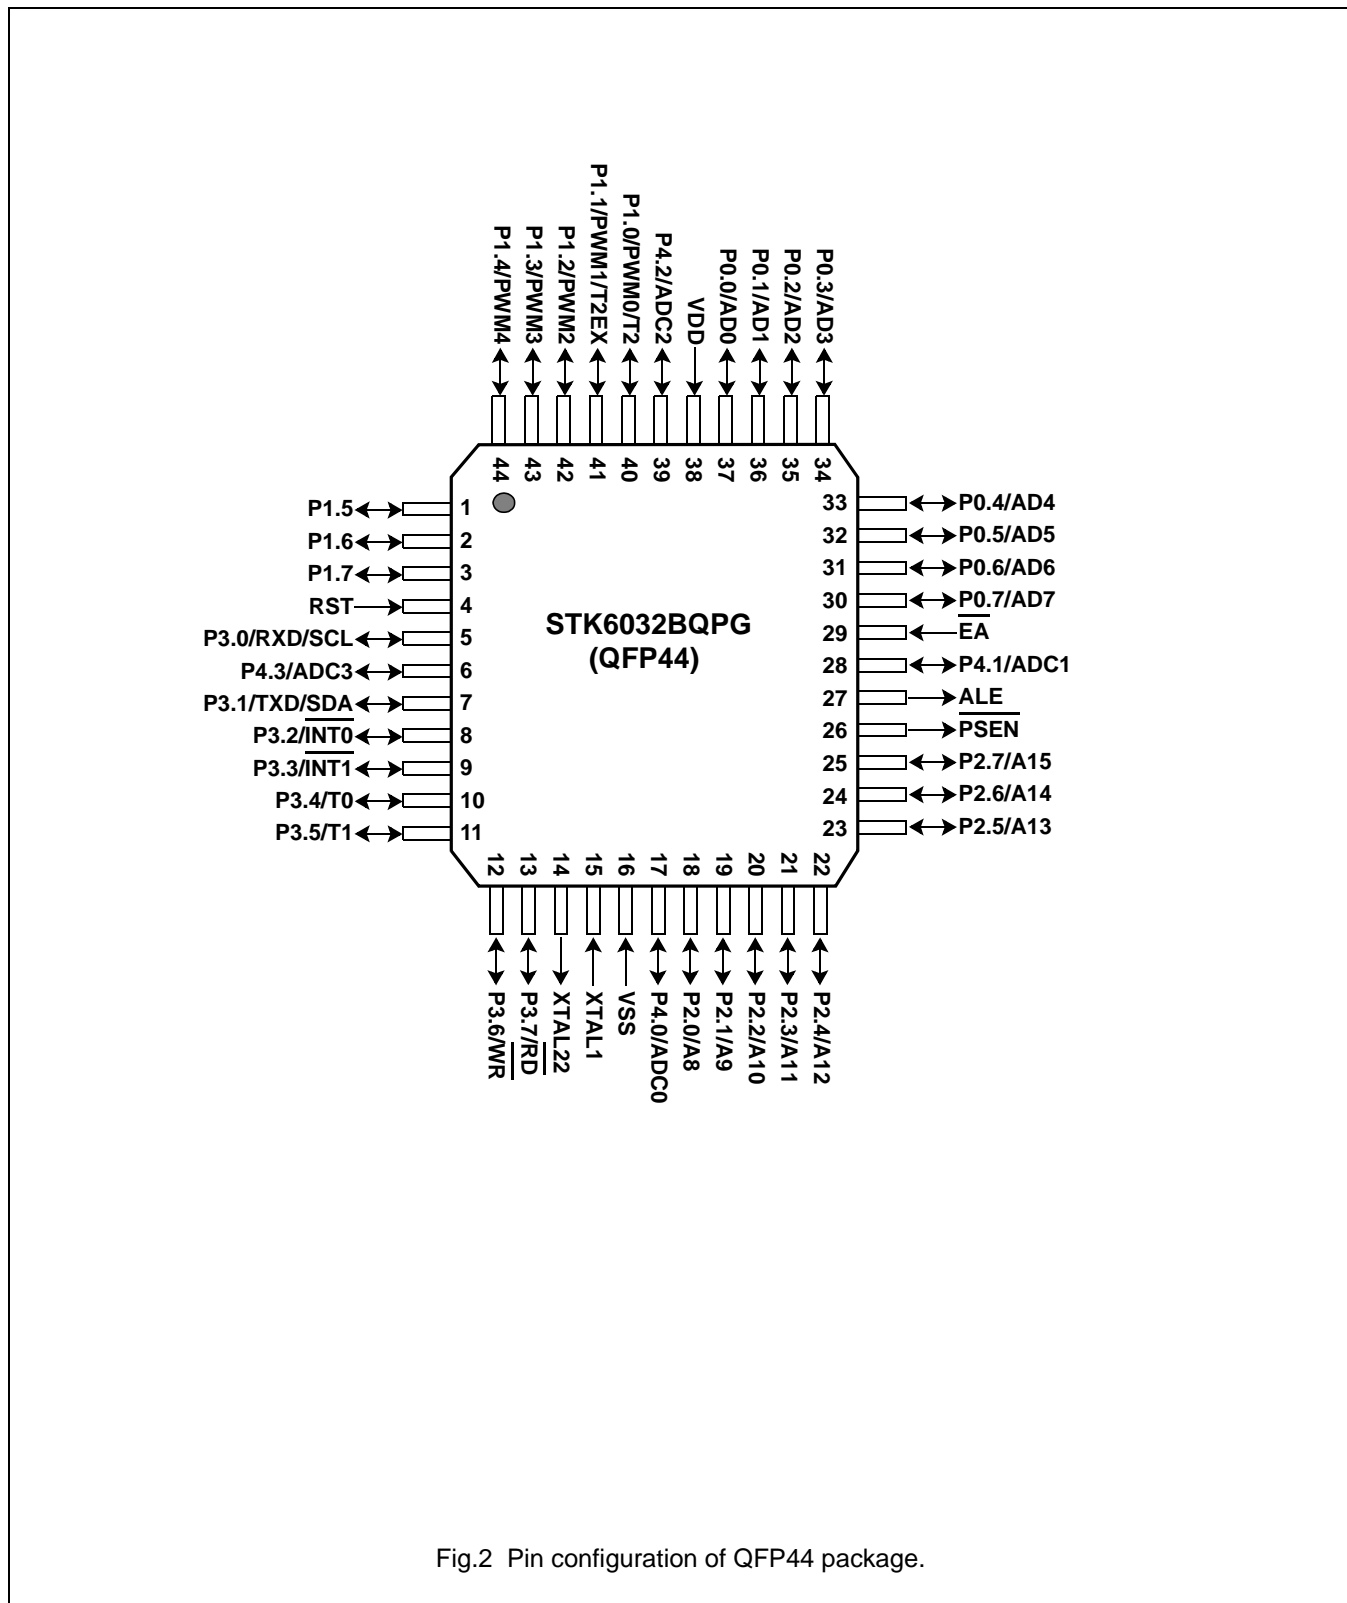

Fig.2 Pin configuration of QFP44 package.
- Fig. 2** Pin configuration of QFP44 package....Page 12